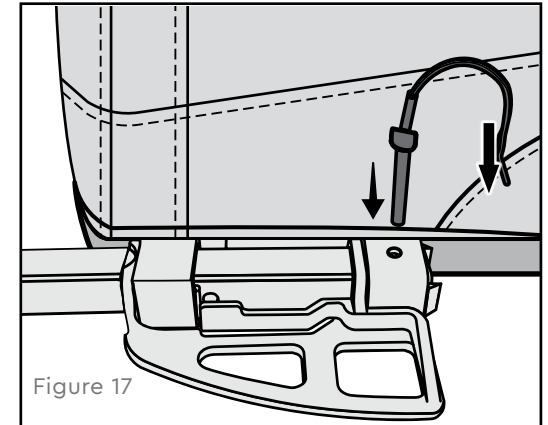

Figure 17
2. Insert the retaining pin from the top through the aligned holes (Figure 17).